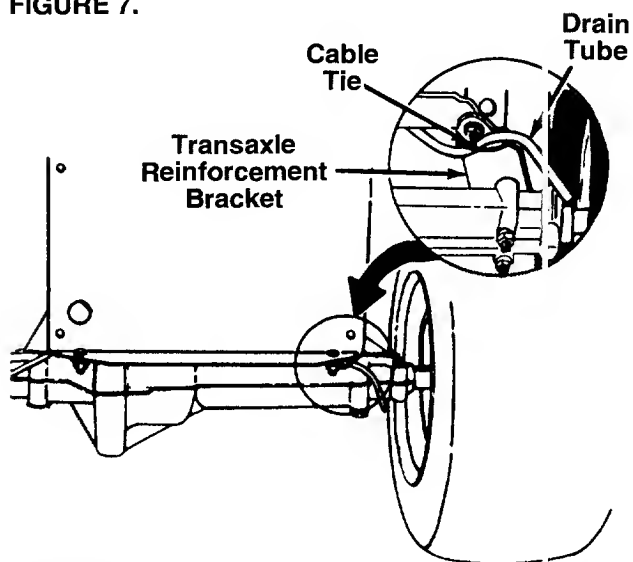

FIGURE 8.
6. Insert the drain tube through the cable tie which is attached to the transaxle reinforcement bracket on the **right** side of the unit. See figure 8. Be certain drain tube is routed away from the wheel rim. Pull on end of cable tie to tighten (do not collapse drain tube). Trim excess end of cable tie.